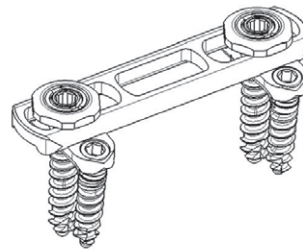

Fig. 1
- Polyaxial Twin Screw system TL with plate or 2 rods, see Fig. 1.